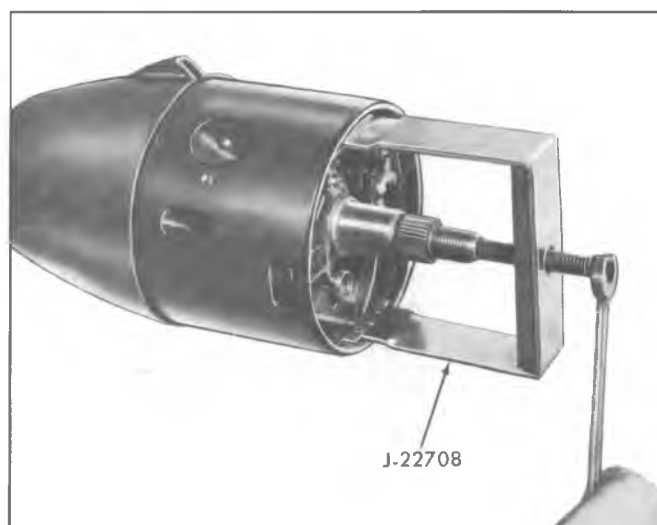

Fig. 16—Removing Directional Signal Housing Cover
- c. Assemble Tool J-22708 inside the directional signal housing cover; push in until the tangs lock inside the cover flange (fig. 16). Turn the tool center screw clockwise to pull the cover from the housing.